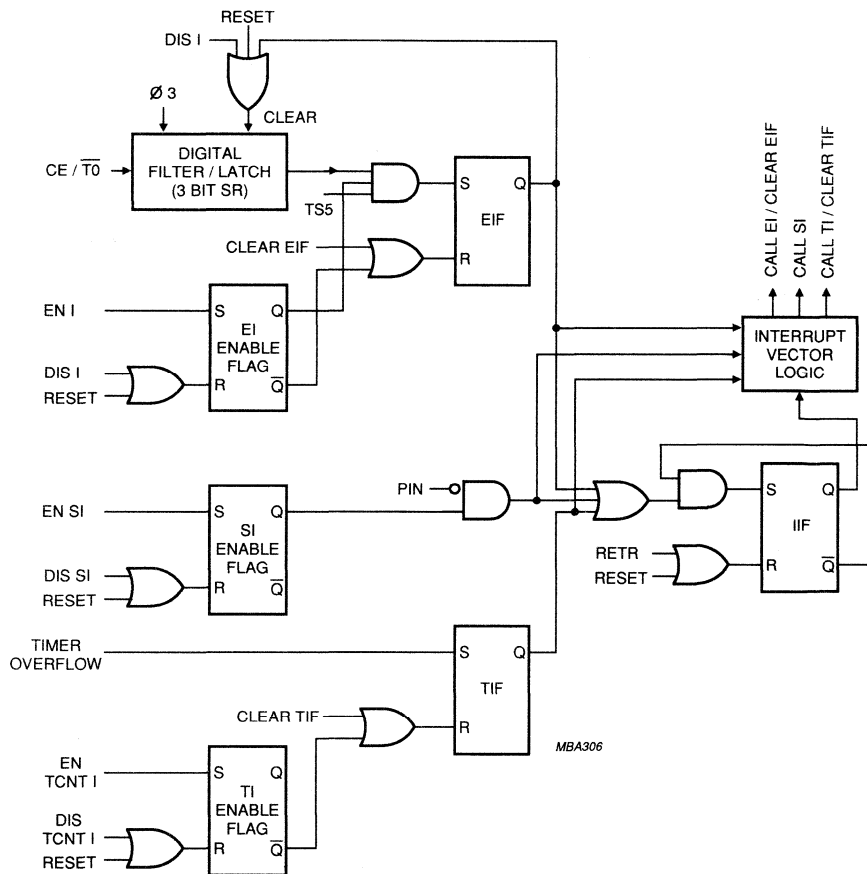
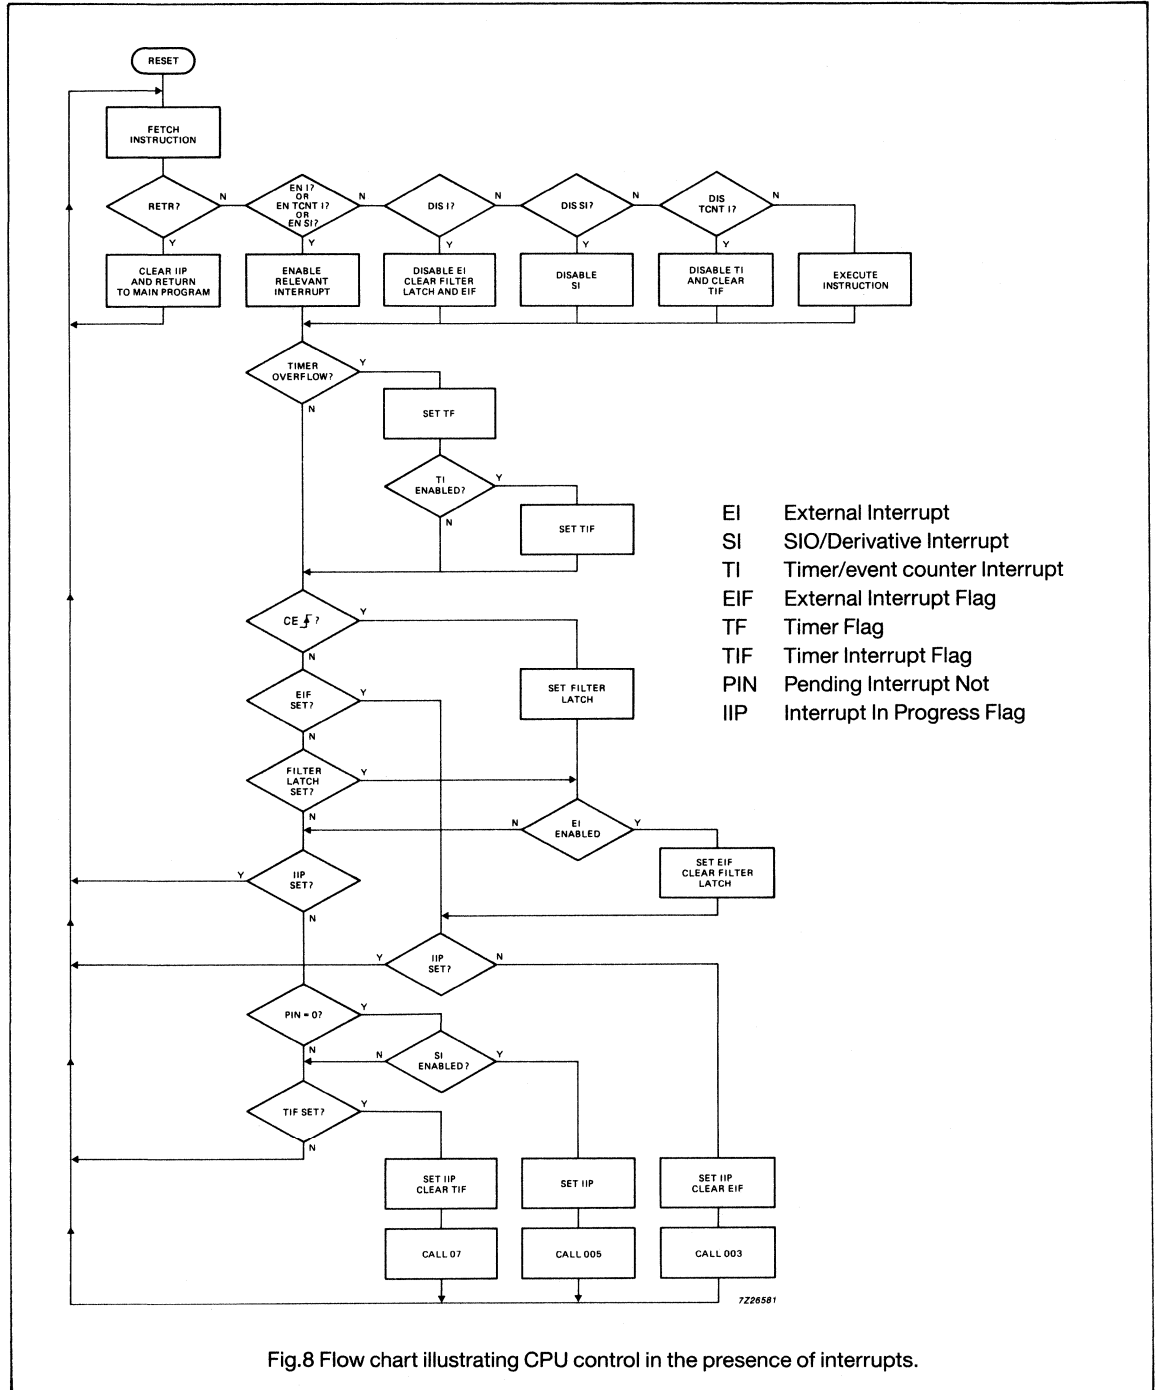

Fig.7 Simplified interrupt logic schematic (the R input overrules the S input for all flags).
Fig.8 Flow chart illustrating CPU control in the presence of interrupts.
An interrupt request will only be serviced if the corresponding interrupt enable flag is set (Fig.7). When a request is serviced, the contents of the program counter, and bits 4, 6 and 7 of the program status word are saved on the program counter stack. The program counter is loaded with the appropriate interrupt vector which points
- Subroutines and nested subroutines called within an interrupt routine must all end with RET since RETR clears the IIP (interrupt in progress) flag (Fig.7 and Fig.8). Further pending interrupts would then interfere with the interrupt routine in progress.
A LOW-TO-HIGH transition on the $CE/\overline{T0}$ pin is latched in the digital filter latch if the HIGH state exceeds 7 clock periods after a LOW state of more than 4 clock periods. If the external interrupt is enabled, then the external interrupt flag (EIF) will also be asserted, constituting a valid external interrupt request. As soon as the IIP is clear, indicating that no interrupt routine is in progress, the external interrupt is invoked by a forced CALL to location 3. The EIF flag is simultaneously cleared (Fig.7 and Fig.8). The interrupt routine may acknowledge the interrupt via port lines.
When the timer/event counter interrupt is enabled, a timer/event counter overflow sets the Timer Interrupt Flag (TIF). As soon as the Interrupt in Progress (IIP) flag is clear (indicating that no interrupt routine is in progress), the timer/event counter interrupt routine is invoked by a forced CALL to program memory location 7, and the TIF flag is simultaneously cleared (Fig.7 and Fig.8).